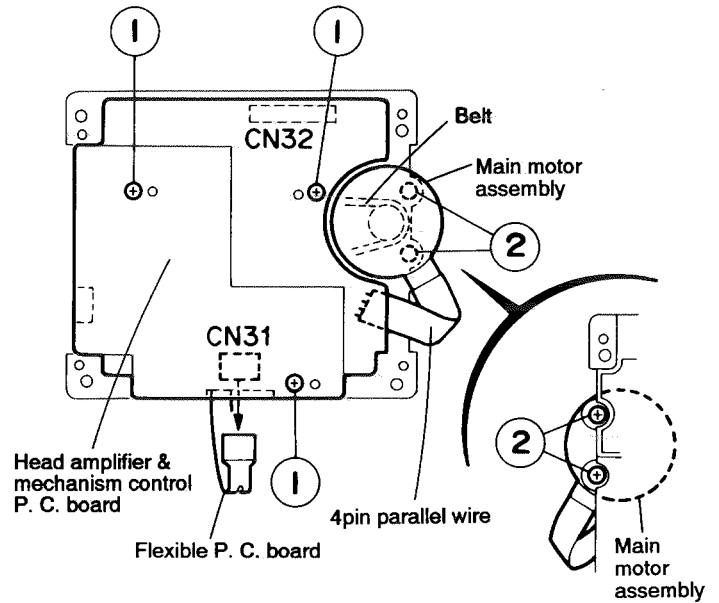

Fig. 5-22
■ **Removing the Head Amplifier & Mechanism Control P.C. Board** (See Fig. 5-22)
2. After turning over the cassette mechanism assembly, remove the three screws ① retaining the head amplifier & mechanism control P.C. board.
1. Remove the two screws ② retaining the main motor assembly (See Fig. 5-22, 22a).